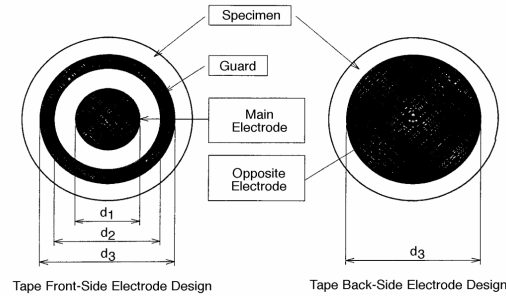

Figure 1
- 6.1 Measure the thickness of specimen with the micrometer. Attach the electrodes to the specimen. Electrodes are formed by conductive epoxy printing or aluminum evaporation shown in Figure 1.